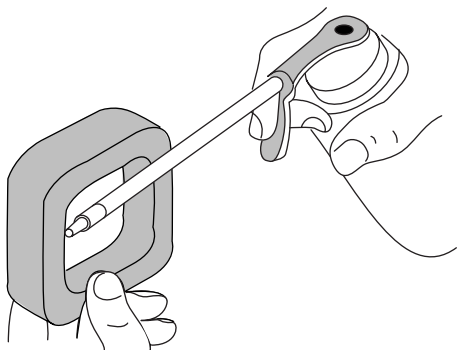

Fig. 46
4. Apply enough clean SAE 30 motor oil to lightly coat the filter (Fig. 46).